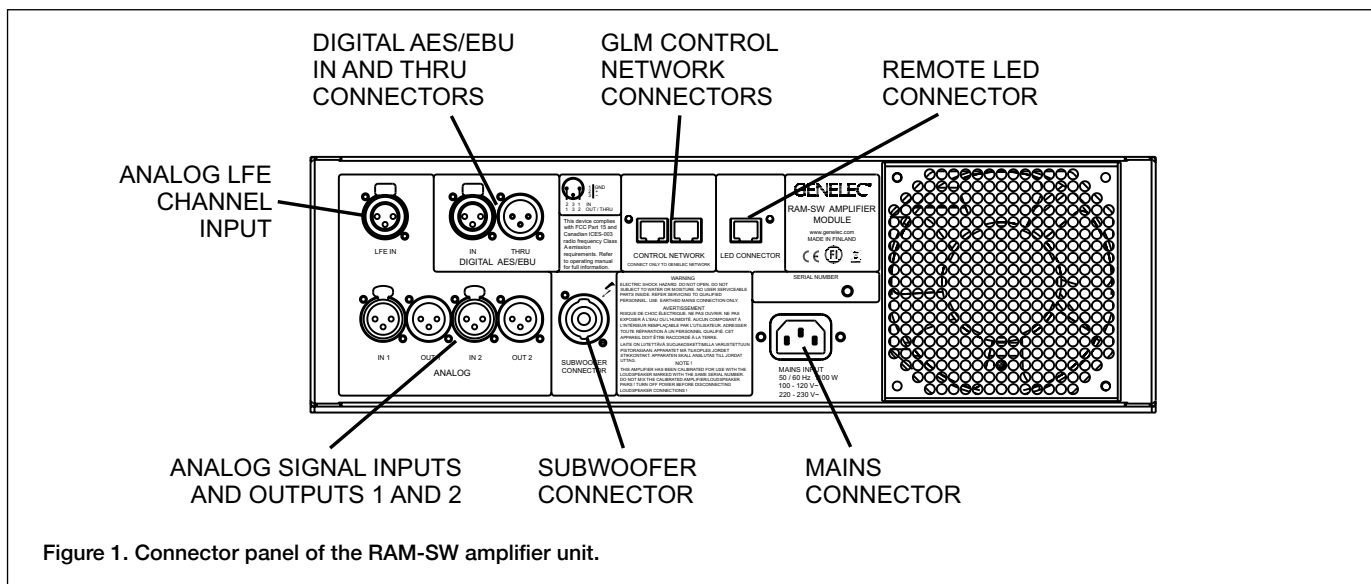

Figure 1. Connector panel of the RAM-SW amplifier unit.
- Connect a CAT5 (RJ45) cable between each monitor (and subwoofer) and finally to the control network input of the GLM Adapter device (see Figure 1).